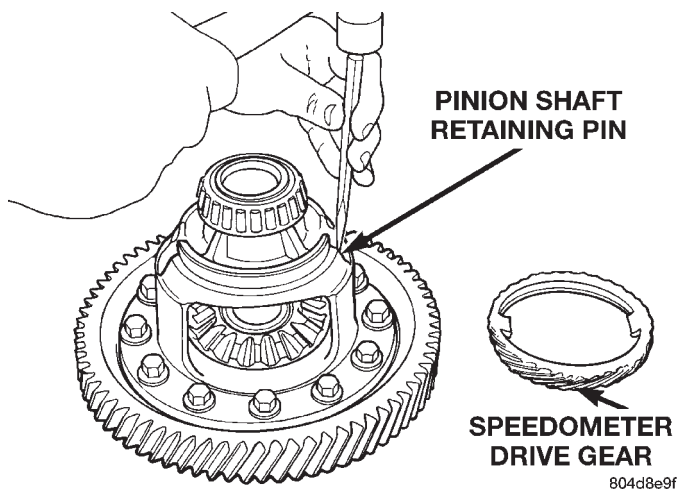

Fig. 123 Staking Retaining Pin
(3) Stake pinion shaft retaining pin with a suitable chisel (Fig. 123).